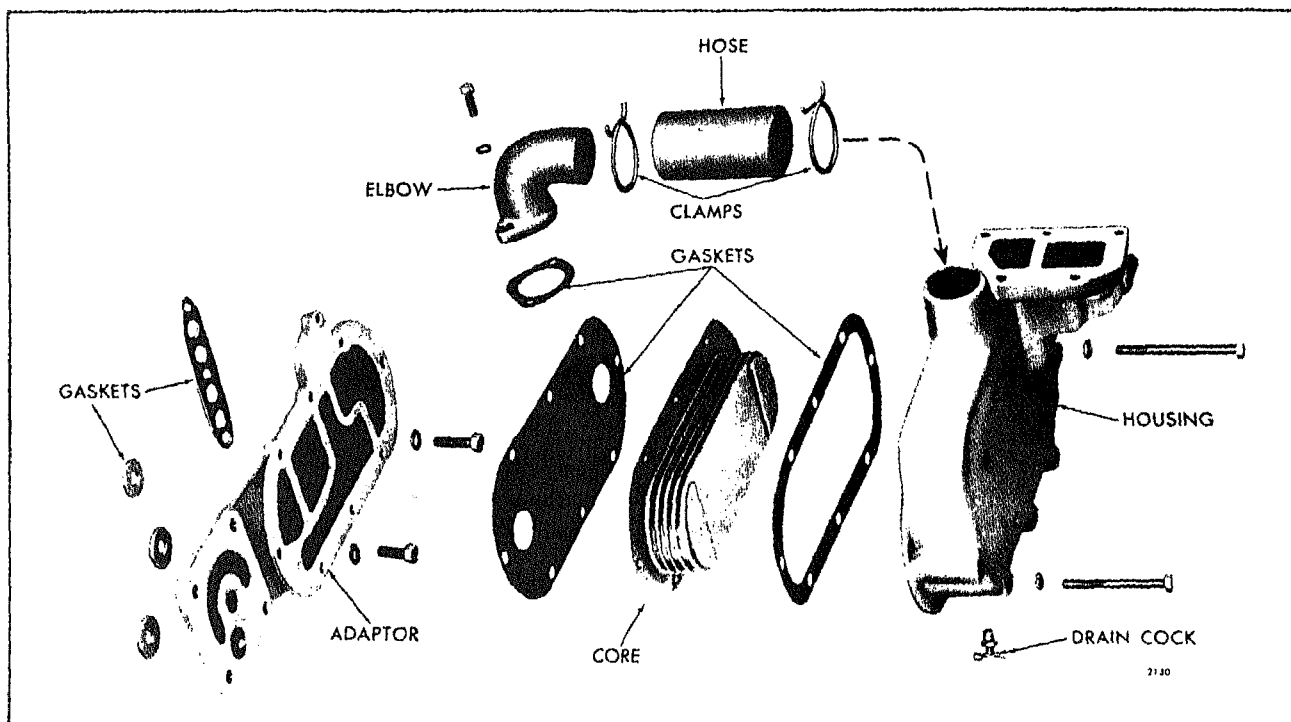

Fig. 3 - Oil Cooler Details and Relative Location of Parts (In-Line Engine)
1. If the oil cooler adaptor (In-Line engines) was removed from the cylinder block, remove the old gasket material from the bosses where the adaptor sets against the block. Affix new adaptor gaskets (Fig. 3), then secure the adaptor to the cylinder block with five bolts and lock washers.
2. Clean the old gasket material from both faces of the core flange and affix new gaskets to the inner and outer faces (Fig. 3). Insert the core into the cooler housing.